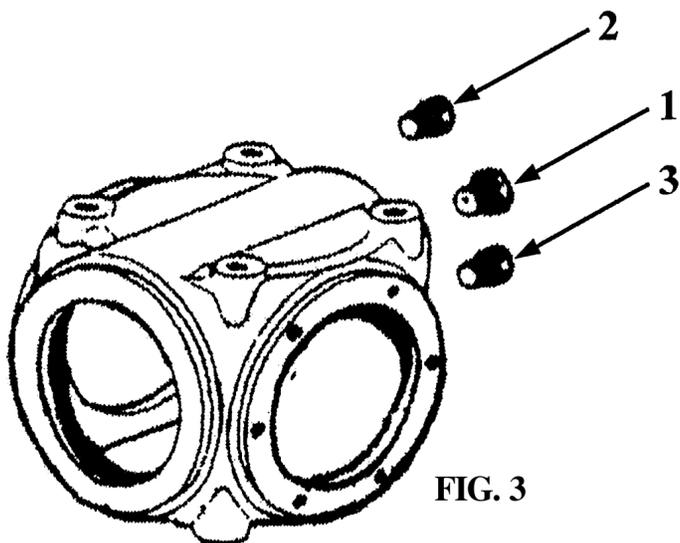

FIG. 3
- Check oil level in the gearbox. This is carried out by unscrewing the level plug located in the back and centre of the box (1 of fig. 3). To add oil unscrew the filler plug (2 of fig. 3) and fill in the box until the oil starts to leak..
In the case the machine has done its first 100 hours, change oil in the gearbox and chain (gear) drive. The change of oil in the gearbox is carried out by removing the discharging plug located in the back and lower part of the box (3 of fig. 3) and after opportunely leaning the machine, to conclude with the discharge of all the oil through the discharging hole. The change of oil from the cover is carried out by discharging all the oil through the level hole located in the lower part of the cover itself (always after leaning the machine). This change is necessary because the gears are new and so are subject to quicker worn. Use oil: SAE 80 W 90 API GL 4.